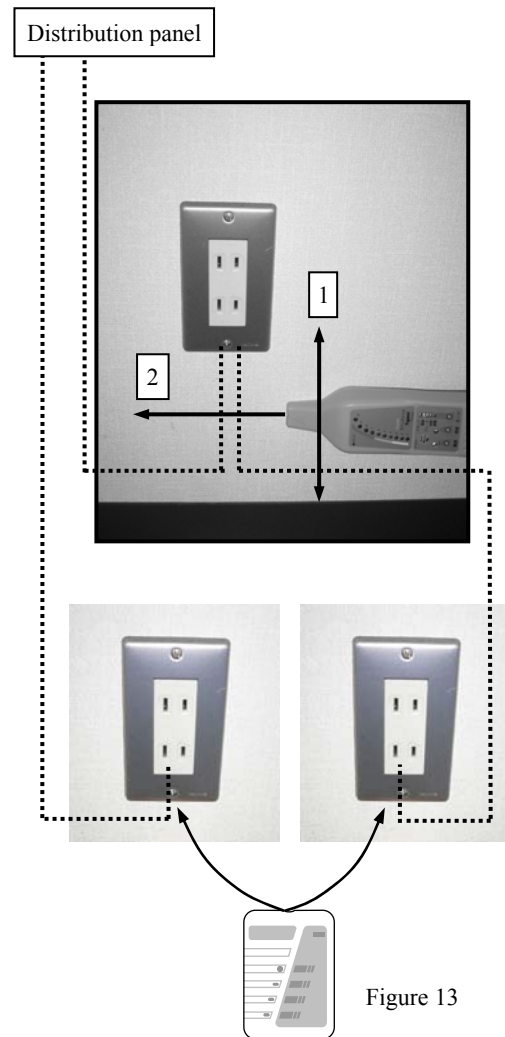

Figure 13
(4) Figure 13 is an example of in-wall wire route detection.